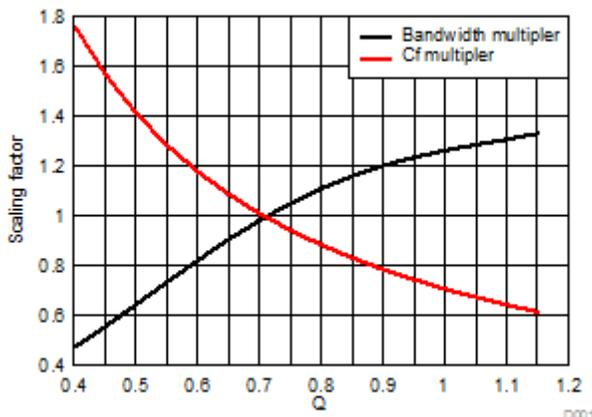

Figure 1. Scaling Factor for Bandwidth (F - 3dB) and C_F Vs. Q Factor
The closed-form equations to determine the closed-loop bandwidth and feedback capacitance (C_F) for TIA compensation can be quite involved. A simpler approach is to first compensate the TIA for a Butterworth response ($Q = 0.707$) using the theory presented in part 1 of this series and then, using Figure 1 below, determine the C_F to achieve the desired quality factor (Q). Figure 1 also gives the resulting closed-loop bandwidth of the amplifier for the desired Q factor.
Using the example for a Butterworth response from part 1 of this series, set $C_F = 0.14\text{pF}$, which results in $f_{-3\text{dB}} = 10\text{MHz}$. To achieve a $Q = 0.6$, from Figure 1 the resulting $C_F = 0.14\text{pF} \times 1.190 = 0.17\text{pF}$ and the resulting $f_{-3\text{dB}} = 10\text{MHz} \times 0.82 = 8.2\text{MHz}$.